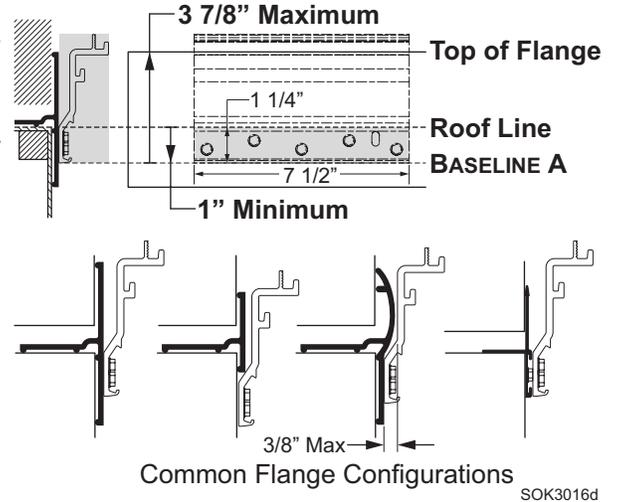

Figure 4. Vertically Positioning the Deflector Bracket.
- Measure the difference between the mounting face and the outermost face of the flange. Maximum allowable depth is 3/8". Refer to the common flange configurations in Figure 4. If the flange thickness exceeds the 3/8" maximum, a 1/4" shim is available. Shim must be specified at time of order.
2. Bracket #2 (lift arm bracket) mounts to the coach wall above the slide-out room. The bracket requires a flat mounting area of 1 1/2" high and 6 inches wide. The bottom of the mount area for bracket #2 must be within the minimum and maximum values shown in figure 4 from BASELINE A. Mark the bottom edge of the area. This will be BASELINE B.